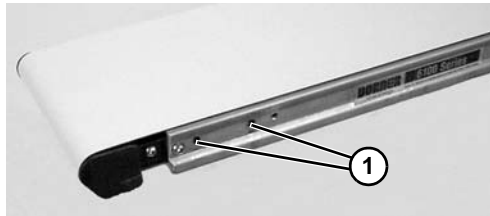

Figure 12
5. On side opposite drive output shaft, remove two screws (**Figure 12, item 1**).